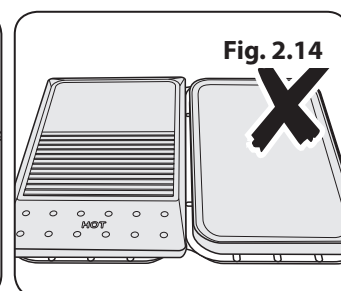

Fig. 2.14
**⚠ NEVER fit two griddles side by side (Fig. 2.14).**